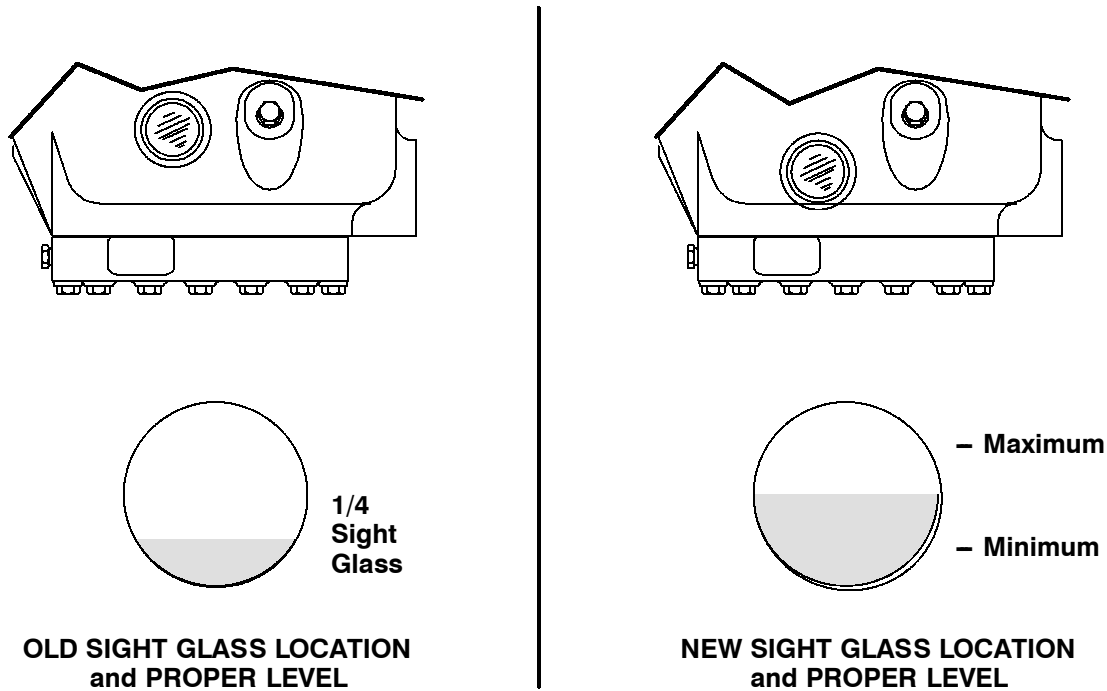

Figure 2-2. Oil Level in Sight Glass
b. Check oil level in sight glass (See Figure 2-2). If necessary, add or remove oil.